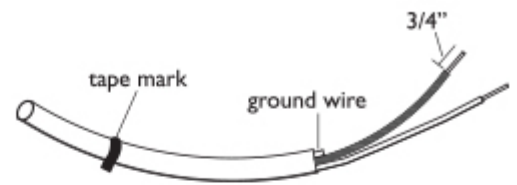

Figure 3
- not individually conductive. Next, strip back approximately 3/4" of the insulation on each of the remaining two inner wires of each pendant. (Figure 3)